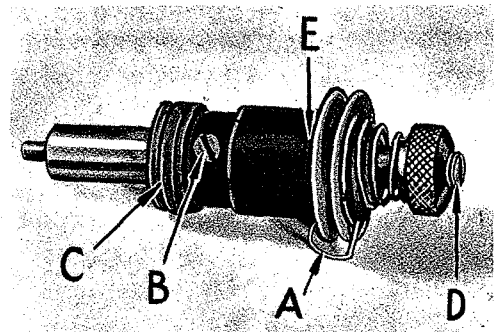
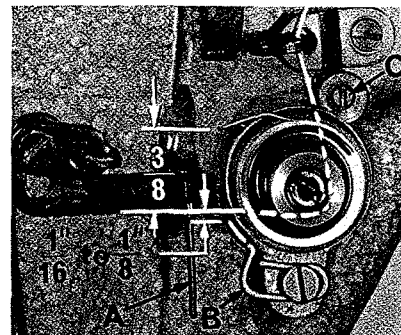
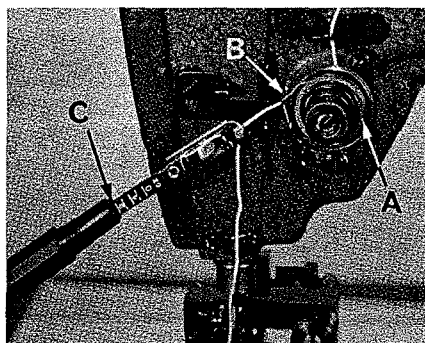

Fig. 18
Fig. 19
Fig. 20
Test check spring tension (A, Fig. 18). There should be enough tension to assure a good returning snap when the spring is depressed and released. Should it require adjusting, loosen set screw in head located under arm and to the right of tension assembly and remove tension assembly. Partially loosen tension post set screw (B) in tension post socket (C). Turn tension post (D) counterclockwise until check spring moves away from upper stop (E) and has no tension on it. Turn tension post (D) in a clockwise direction until spring again touches upper stop (E). Proceed further in same direction until desired tension is obtained. When correctly set tension post set screw (B) should be drawn up snugly, yet not forcefully. Further adjustment of check spring tension can be made by inserting a screwdriver into slotted end of tension post (D) and turning in required direction.
Replace tension assembly with check spring about  $3/8$  inch above thread take-up bracket (A, Fig. 19). Replace tension post assembly while presser foot is resting on throat plate.
The in and out position of the tension assembly is correct when the tension discs are in line with the check spring eyelet (B, Fig. 19). Set the stop screw (C, Fig. 19) so that when the flange of the tension assembly rests against it, this position is maintained. Tighten the tension assembly set screw.
Check the adjustment of tension assembly (A, Fig. 20). Check spring tension. There should be enough tension to insure a good returning snap when spring (B, Fig. 20) is depressed and released. The check spring tension is adjusted from about 1 to 1 1/4 ounces when measured with a postal scale, No. 21227 CW, (C, Fig. 20). This is measured when the check spring is 1/32 to 1/16 inch from the stop. The tension post set screw should be drawn up snugly but not forcefully tightened (B, Fig. 18). The tension release pin should move freely in the tension post (D, Fig. 18). The check spring eyelet (B, Fig. 19), located just below the tension discs, should be set for correct height as follows:
With a thread running from the tension post to the thread take-up bracket (A, Fig. 19) in a straight line, the check spring eyelet should be set 1/16 to 1/8 inch below the thread line (Fig. 19). Be sure the eyelet is set close to the tension discs so that the check spring will pass freely over it without obstruction. After making this setting, proceed to thread machine as per threading diagram (Fig. 3).